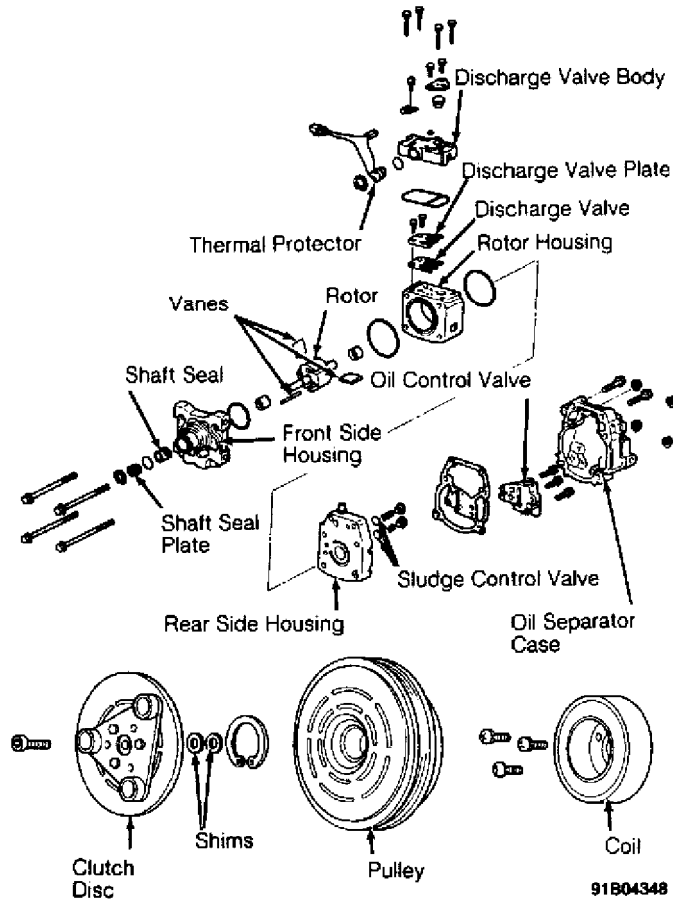

Fig. 13: Exploded View of Rotary Vane Compressor (Panasonic)
adjust by adding or removing shims. Tighten center bolt to 96-108 INCH lbs. (11-13 N.m). See Fig. 13.
5) Use feeler gauge to measure distance between armature and clutch hub. If gap is not .01-.02" (.25-.51 mm), remove clutch assembly and add or remove shims accordingly. See Fig. 13.